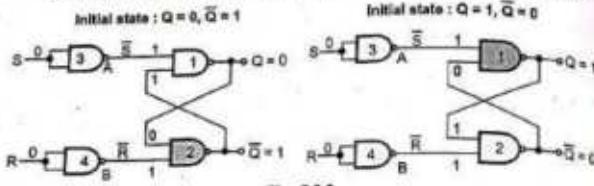

Fig. 5.3.2
- The circuit operation is as follows. In Fig. 5.3.2, the output of shaded NAND gate is determined first, and the 0 input that decides the output of shaded NAND as 1 is shown in bold.